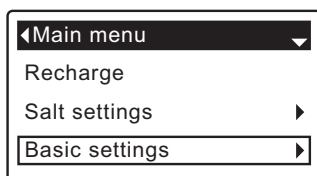

FIG. 45
1. From any of the rolling status screens, press the SELECT (O) button to display the **Main menu**.
2. Press the DOWN (▼) button to scroll through the menu options until **Basic settings** is highlighted (See Figure 45).